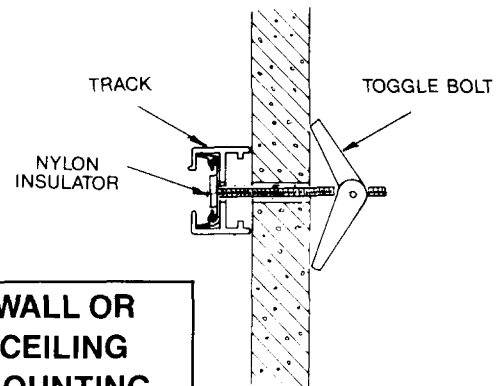

FIG. 6
TRACK may be mounted directly to a surface through existing holes in the TRACK (Fig. 6).
**CAUTION: WHEN WALL MOUNTING TRACK DO NOT USE MOUNTING CLIPS; MOUNT TRACK DIRECTLY TO SURFACE AS SHOWN (FIG. 6).**